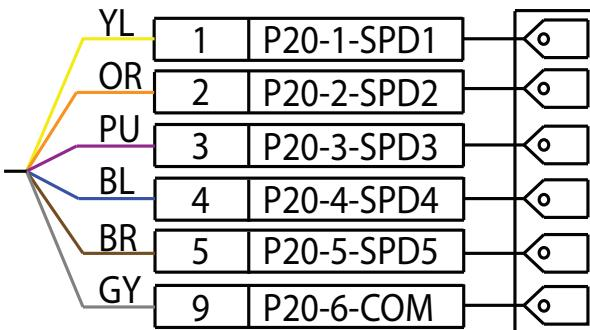

Fig. 34 — Constant Torque ECM Pin Diagram
3. Change the torque tap wire to one of the five speed settings. (See Fig. 34.)